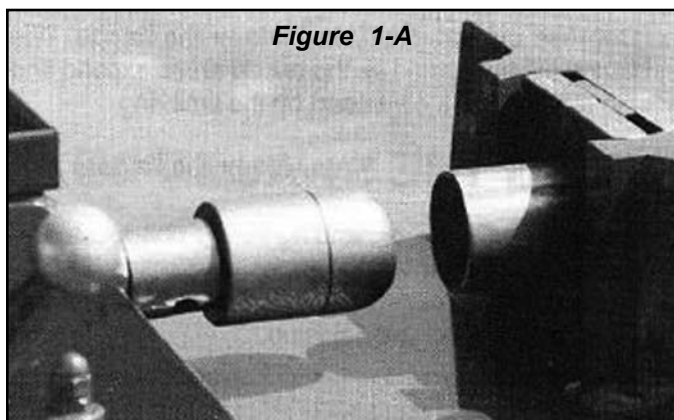

Figure 1-A
4. Leave at least three inches of tubing extended beyond the inside edge of the adapter collar. (See figure 1-A)